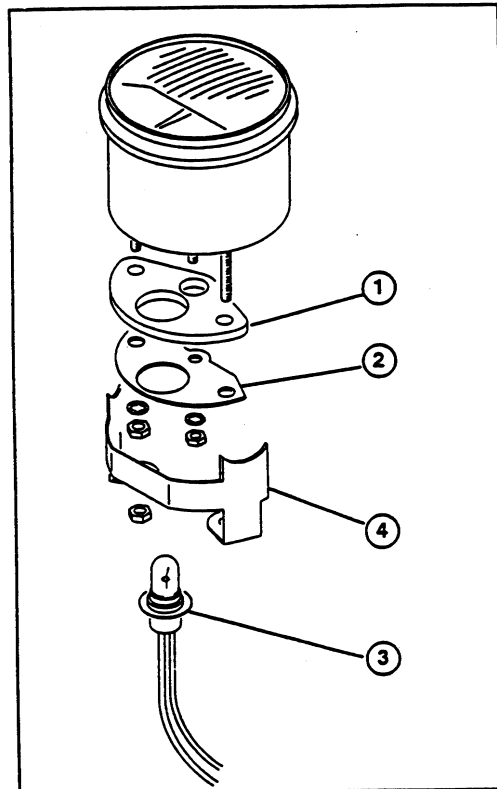

Figure 1
1. Remove (2) nuts, washers and bracket securing gauge to control panel.
3. Insert light socket gasket and plate over gauge mounting studs and "G" terminal nut (Fig. 1).
4. Secure gasket and plate to gauge with (2) mounting stud nuts and washers previously removed.
5. Insert wire assembly light into hole in light socket plate (Fig. 1).
8. Secure gauge to control panel with bracket and (2) new nuts and washers (Fig. 1).